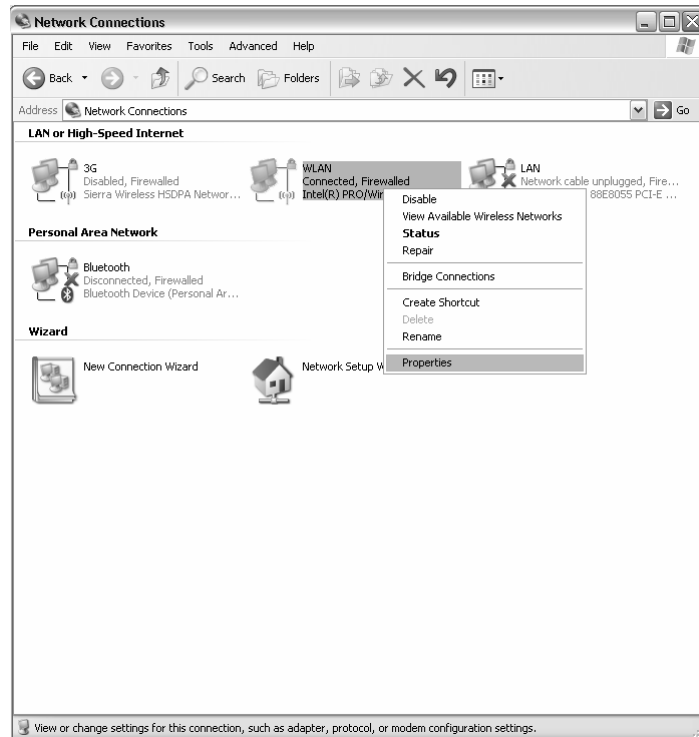

Figure 7. Network connection properties
2. Change the properties of the network connection to which FERCS10 is connected as shown in *Figure 7*: